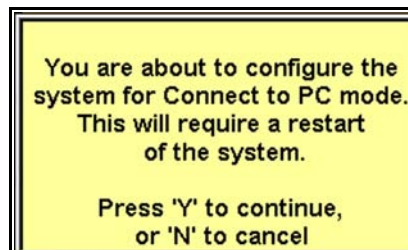

Figure 2-19 Sample Connect to PC message
3. Press **Y** to select and a configuring for Connect to PC message displays (Figure 2-19)